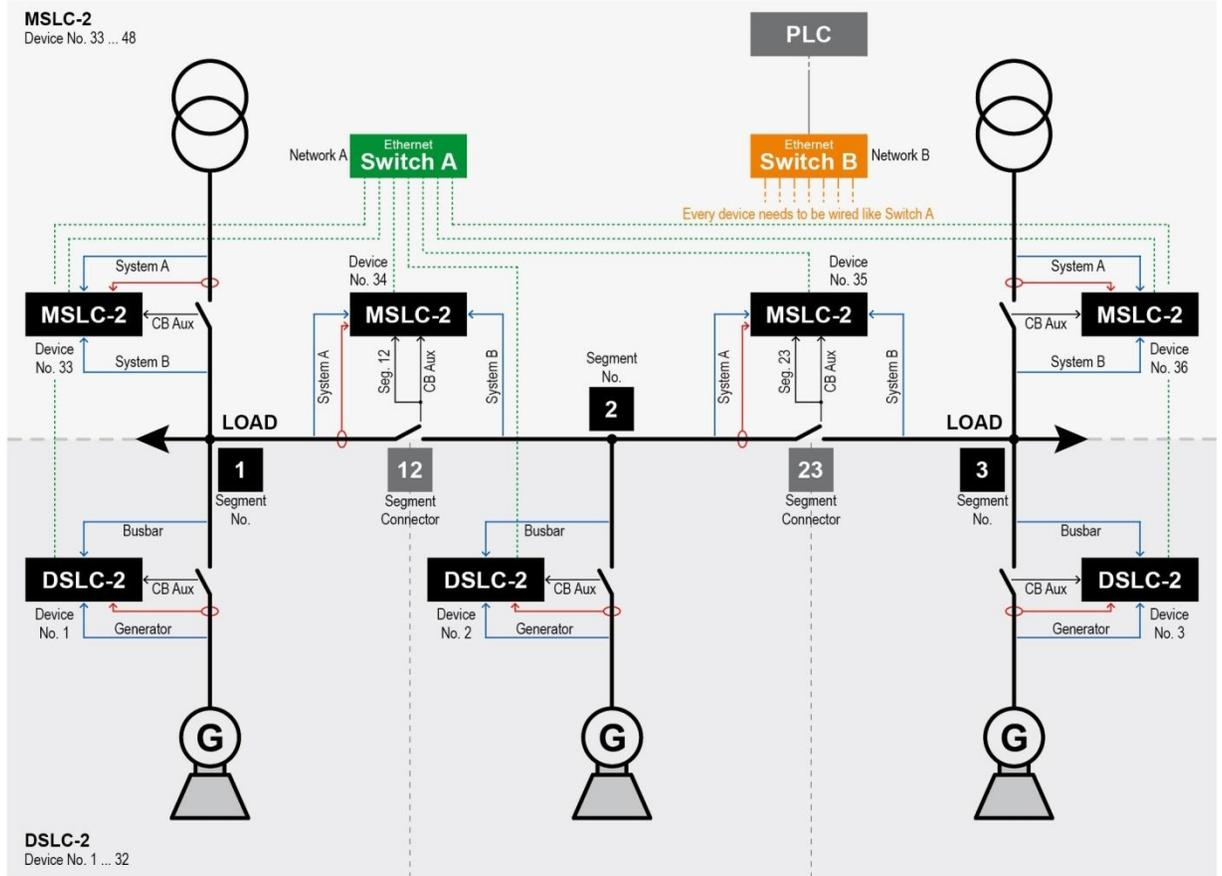

Figure 3-119: Example of an online diagram with all required information to setup the units
7. You can optionally draw the current measurement and the amount of phases in your online diagram (refer to Figure 3-119).